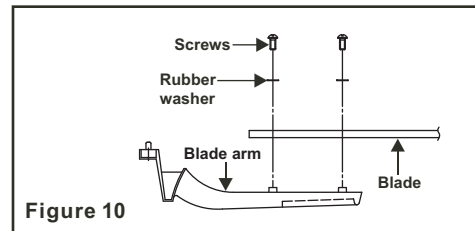

Figure 10
Step 1. Attach the blades to the blade arms using three screws and rubber washers as shown in Figure 10. Start a screw into the arm, do not tighten. Repeat for the 2 remaining screws and washers.